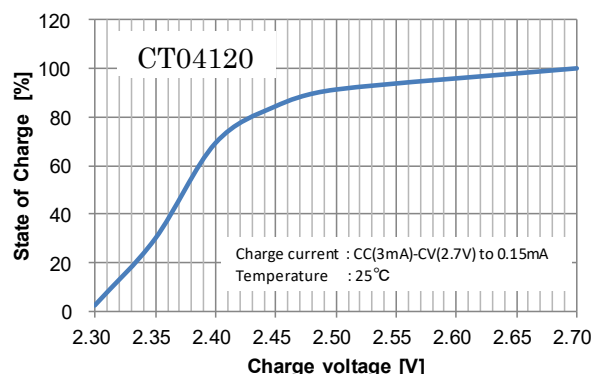

Fig.2: Relation between charge voltage and SOC
- Figure 2 shows relation between charge voltage and State of Charge (SOC). Since nominal voltage of CT04120 is 2.3V, OVP needs to be set to more than 2.3V, less than 2.7V. SOC depends on charge voltage,